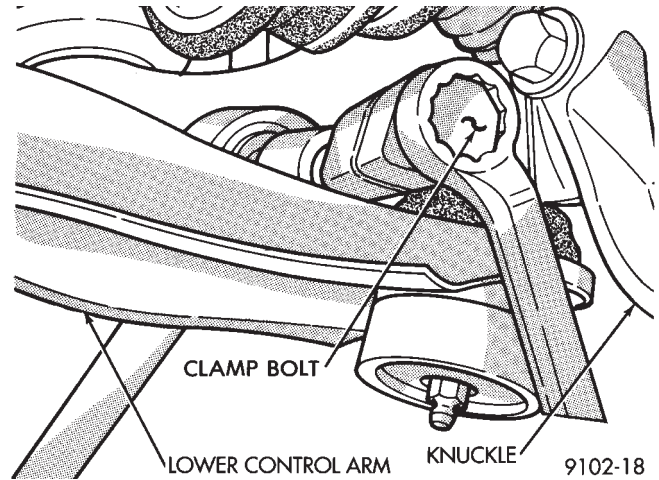

Fig. 14 Tighten Clamp Bolt
(6) Install original (or equivalent) ball joint to knuckle clamp bolt (Fig. 14) into steering knuckle. Tighten clamp bolt to 136 N•m (100 ft. lbs.) torque.